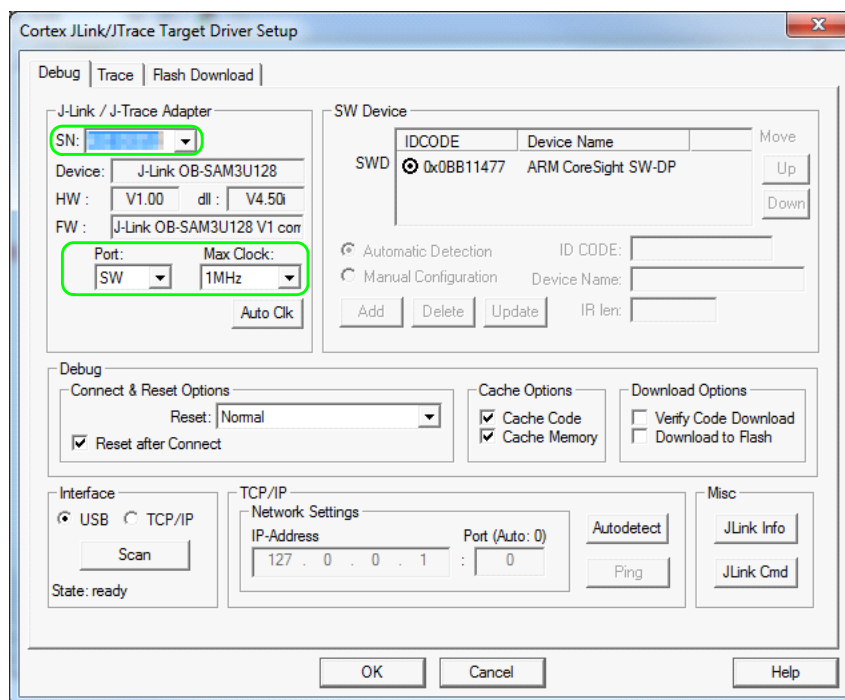

Figure 36 Debug settings
- Click the **Debug** tab shown in **Figure 36**. Set Port to **SW** and Max Clock to **1 MHz**, as shown in **Figure 36**. Make sure that **SN** and **IDCODE** are populated as seen in **Figure 36** and click **OK**.